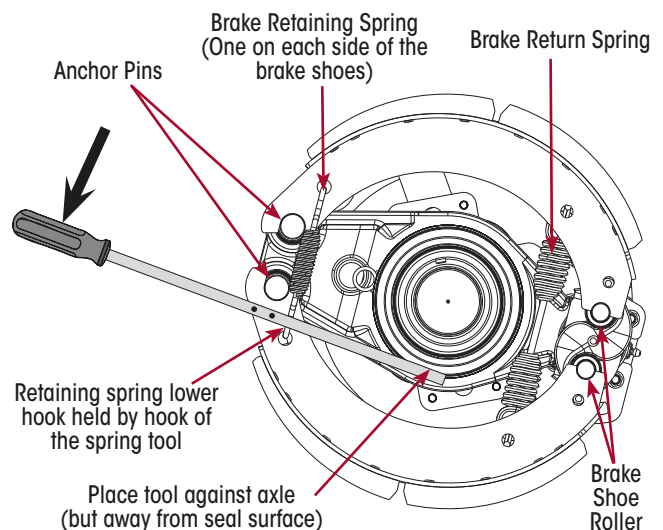

Figure 54: Brake Retaining Spring Installation
7. While manually supporting the lower brake shoe, use Brake Spring Tool to hook inner brake retaining spring onto the anchor end of the brake shoes. Take care not to damage the hub seal, spindle bearing or sealing surfaces. Refer Figure 54.